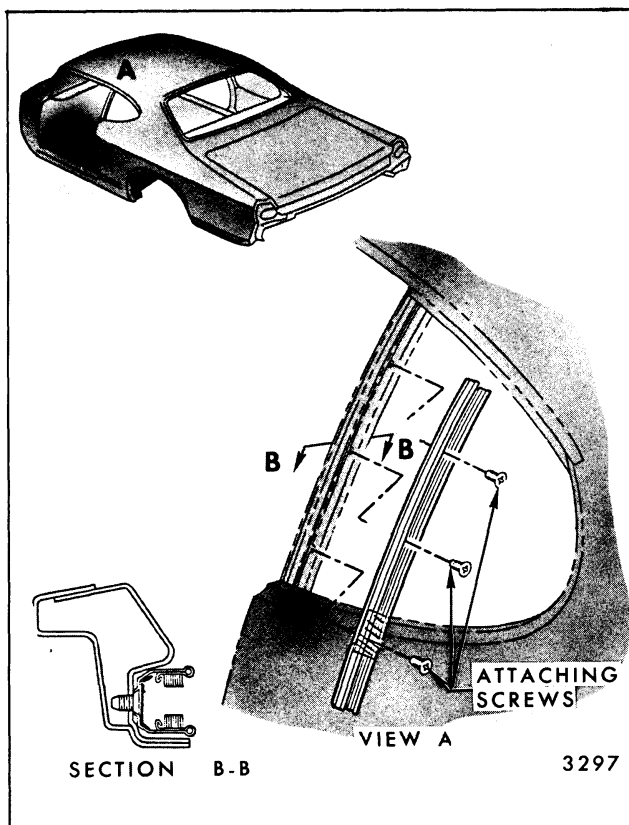

Fig. 6-28-Rear Quarter Window Front Glass Run Channel
2. Remove screws along length of run channel securing channel to body (Fig. 6-28).